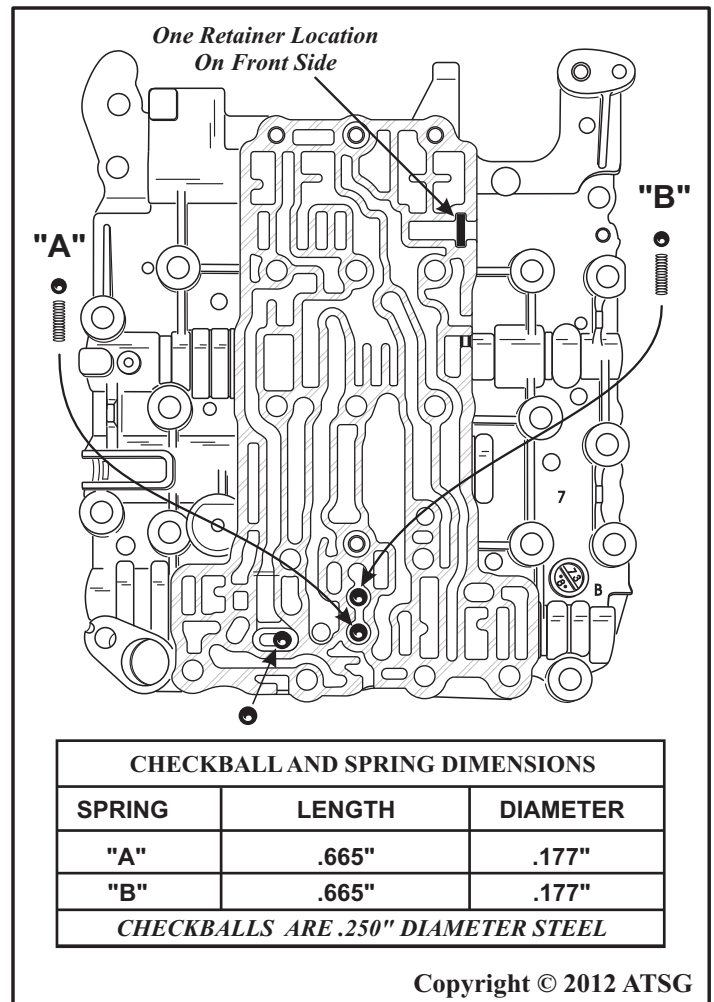

Figure 231
Note: One retainer location is shown in Figure 231, as it is on front side.
32. Turn the valve body over with the spacer plate facing down, as shown in Figure 231.
33. Install the "A" check ball and spring with the spring going in first, as shown in Figure 231.
34. Install the "B" check ball and spring with the spring going in first, as shown in Figure 231.
35. Install the last check ball into the bath tub, as shown in Figure 231.
Note: Spring and check ball dimensions are shown in Figure 231.